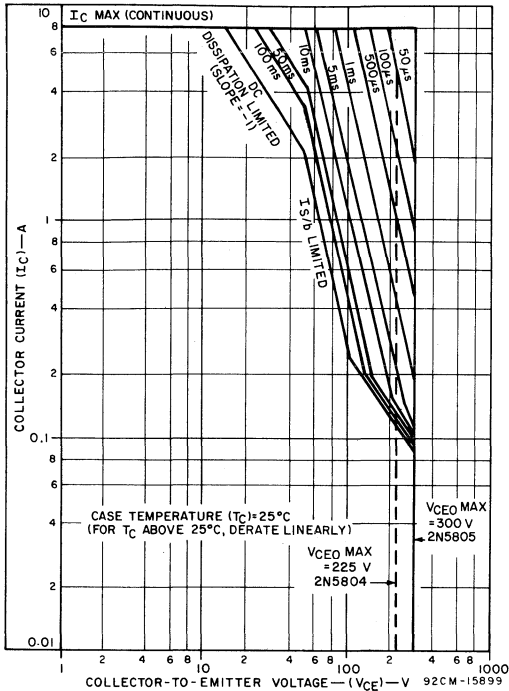

Fig. 2 - Maximum operating areas for types 2N5804 & 2N5805.
For types 2N5804 and 2N5805 the maximum operating area is defined by five straight lines on a log-log plot of  $V_{CE}$  vs.  $I_C$ . As shown in Fig. 2, a horizontal line defines the maximum current, a line with a slope of -1 (corresponding to values of  $V_{CE}$  between 14 and 50 volts) defines the maximum power dissipation allowable.
As can be seen in Fig. 2, these transistors are free from second-breakdown out to 50 volts and 2.2 amperes. The boundary, out to this point, is made up of the maximum current and maximum power curves. Beyond the boundary, second-breakdown effect becomes the controlling factor. The second-breakdown boundary is made up of two successive straight lines - one with a slope of -3, and another with a slope of -1 (corresponding to values of  $V_{CE}$  between 100 and
- (1) For a specified value of collector-to-emitter voltage,  $V_{CE}$ , determine (from Fig. 2) the maximum collector current at 25°C.